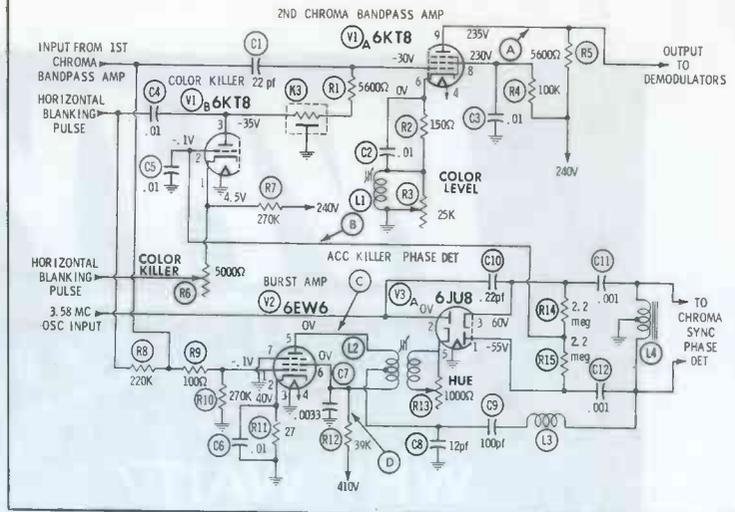

Fig. 8. Missing burst pulse caused killer to cut off bandpass.
*Result:* Waveform at the first chroma bandpass amplifier grid and plate is normal. At the grid of the second bandpass amplifier signal is normal but plate signal is missing (point A, Fig. 8).